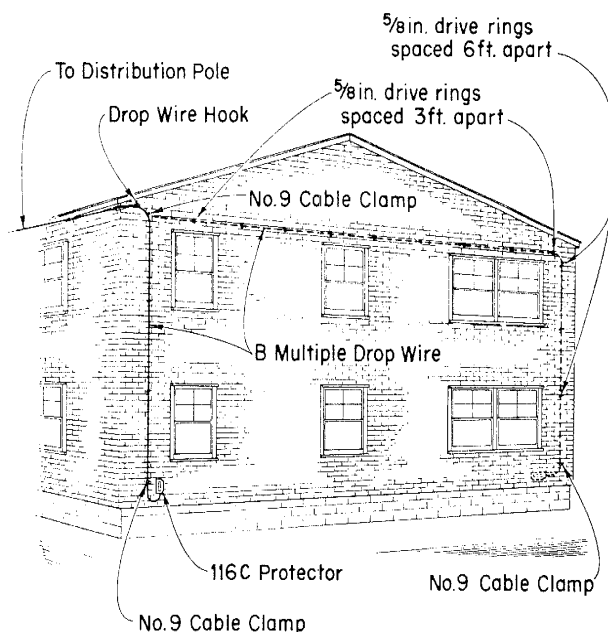

Fig. 1 — Complete Wire Run on Building
**3.06** Complete wire run on outside building wall is illustrated in Fig. 1.